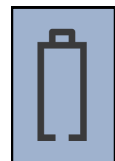

Fig.1A
1. Turn on your tool, check the upper left of the display to see if the battery symbol is showing. If the battery symbol is showing (Fig.1A) then go to the “Rechargeable Battery Care and Maintenance” section, on page 11. If there is no battery symbol visible then the battery is charged.